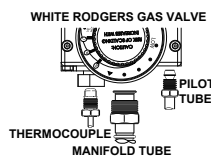

FIGURE 31.
6. Disconnect the thermocouple (right-hand thread), pilot tube, the igniter wire from the igniter button, the two connectors attached to the thermal switch, and manifold tube at the gas control valve/thermostat. (Figures 31 & 32.) **NOTE:** L.P. Gas systems use reverse (left-hand) threads on the manifold tube.
5. Disconnect the igniter wire from the igniter. NOTE: There are two types of igniters. If you have the square igniter, slide the igniter bracket backwards away from the gas valve to remove it. If you have the round igniter, first remove the igniter from the bracket by depressing front and rear holding tabs and lift. Next, remove the igniter bracket from the gas valve. Disconnect the thermocouple (right-hand threads), pilot tube, and manifold tube at the gas control valve/thermostat (Figure 31). NOTE: L.P. gas systems use reverse (left-hand) threads on the manifold tube. Also disconnect the thermal switch wires.